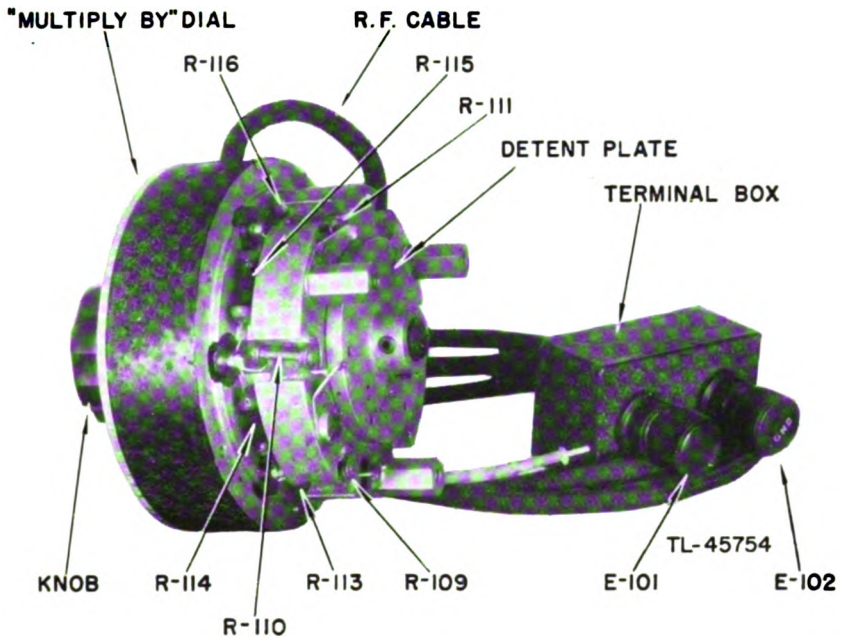
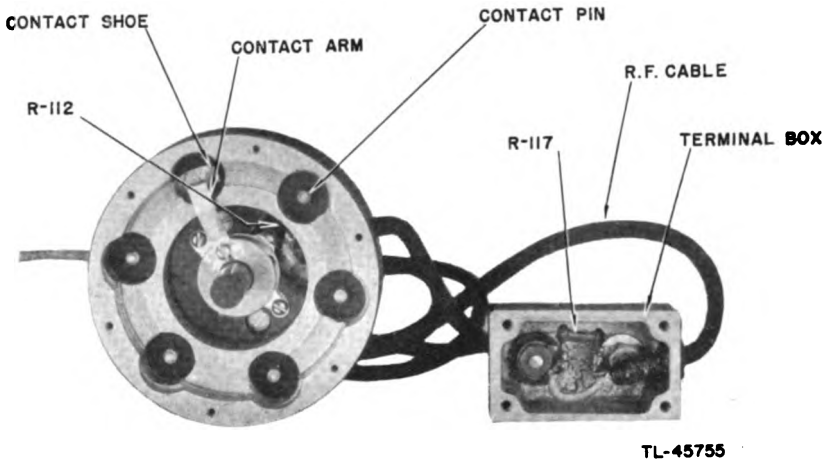

Figure 14. Attenuator S-102.
Figure 15. Attenuator S-102, cover removed.
(1) The front section of the attenuator housing (fig. 15) contains the contact arm, to which the r-f cable is connected by a contact plate, and the six contact studs. Series resistors R-113, R-114, R-115, R-116 are connected between the contact studs which project through insulating buttons into the rear section; the resistors lie in a groove (fig. 14) for shielding purposes. The shunt resistors R-109, R-110, R-111, and R-112 lie in cut-outs in the housing and are connected to the housing (fig. 14).